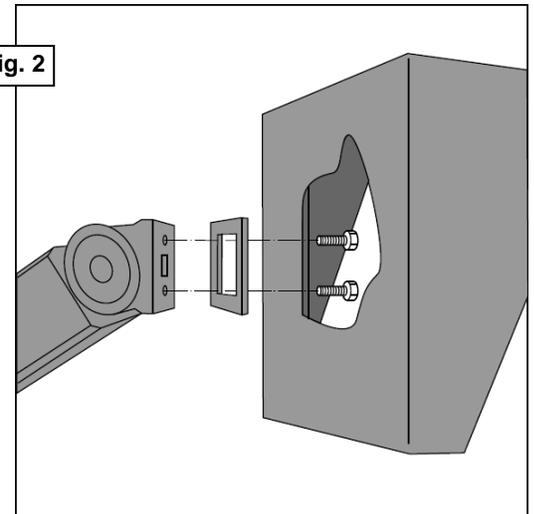

Fig. 2
3. Install all pack's mounting plate to slip fitter using provided fasteners. Be sure to use the gasket provided between the two parts (Fig. 2). Use silicone sealant around fasteners and electrical hole to ensure water cannot enter.